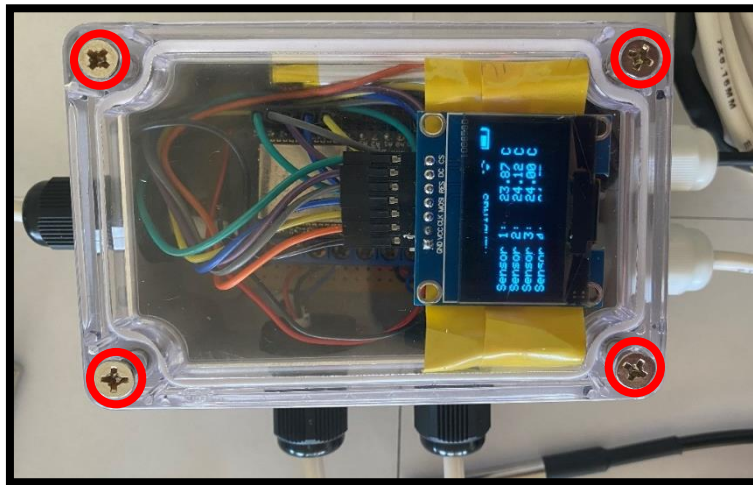

Figure 4: Housing Screws Location
- i) Remove enclosure screws and lift transparent lid as shown in Figure 4 to access internals.